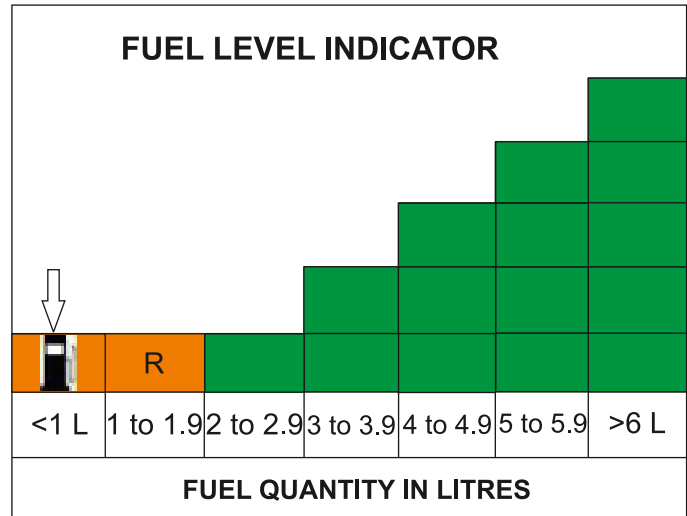

Fig. 6.84
**Note:** Low Fuel warning indicator will start blinking when the fuel level is less than one litre. (Fig. 6.84)